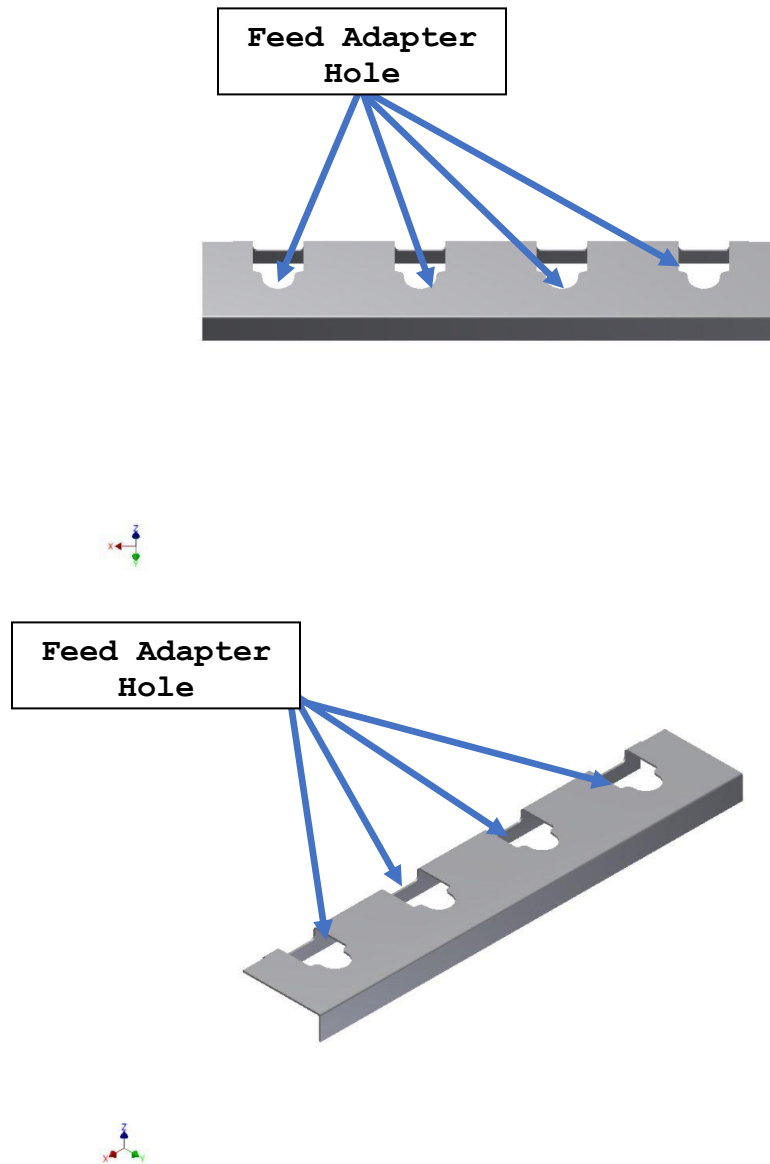

Figure 4: Example Module Base Plate (Top view and Isometric view)
5. The modules should be placed on a plate with cut out hole for where the feed end adaptor may fit into. A example of such a plate is shown in Figure 4. It is